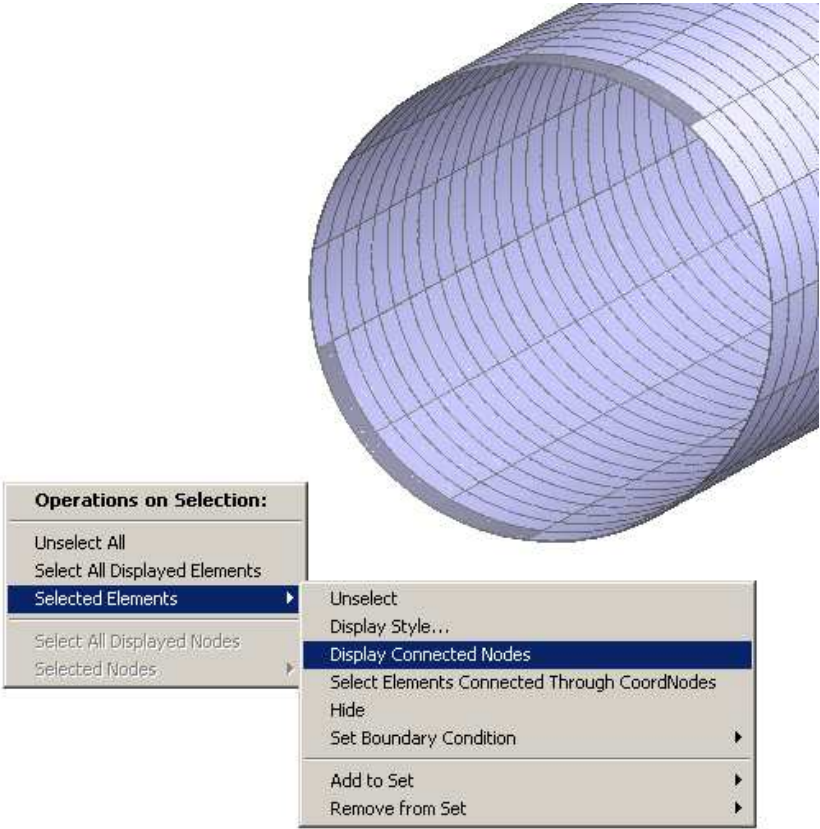

Figure 5.28: Display Connected Nodes for Selected Elements.
- To display coordinate nodes of selected elements, right-click with *shift-key* held down and select: **Operations on Selection** → **Selected Elements** → **Display Connected Nodes**. (Figure 5.28)